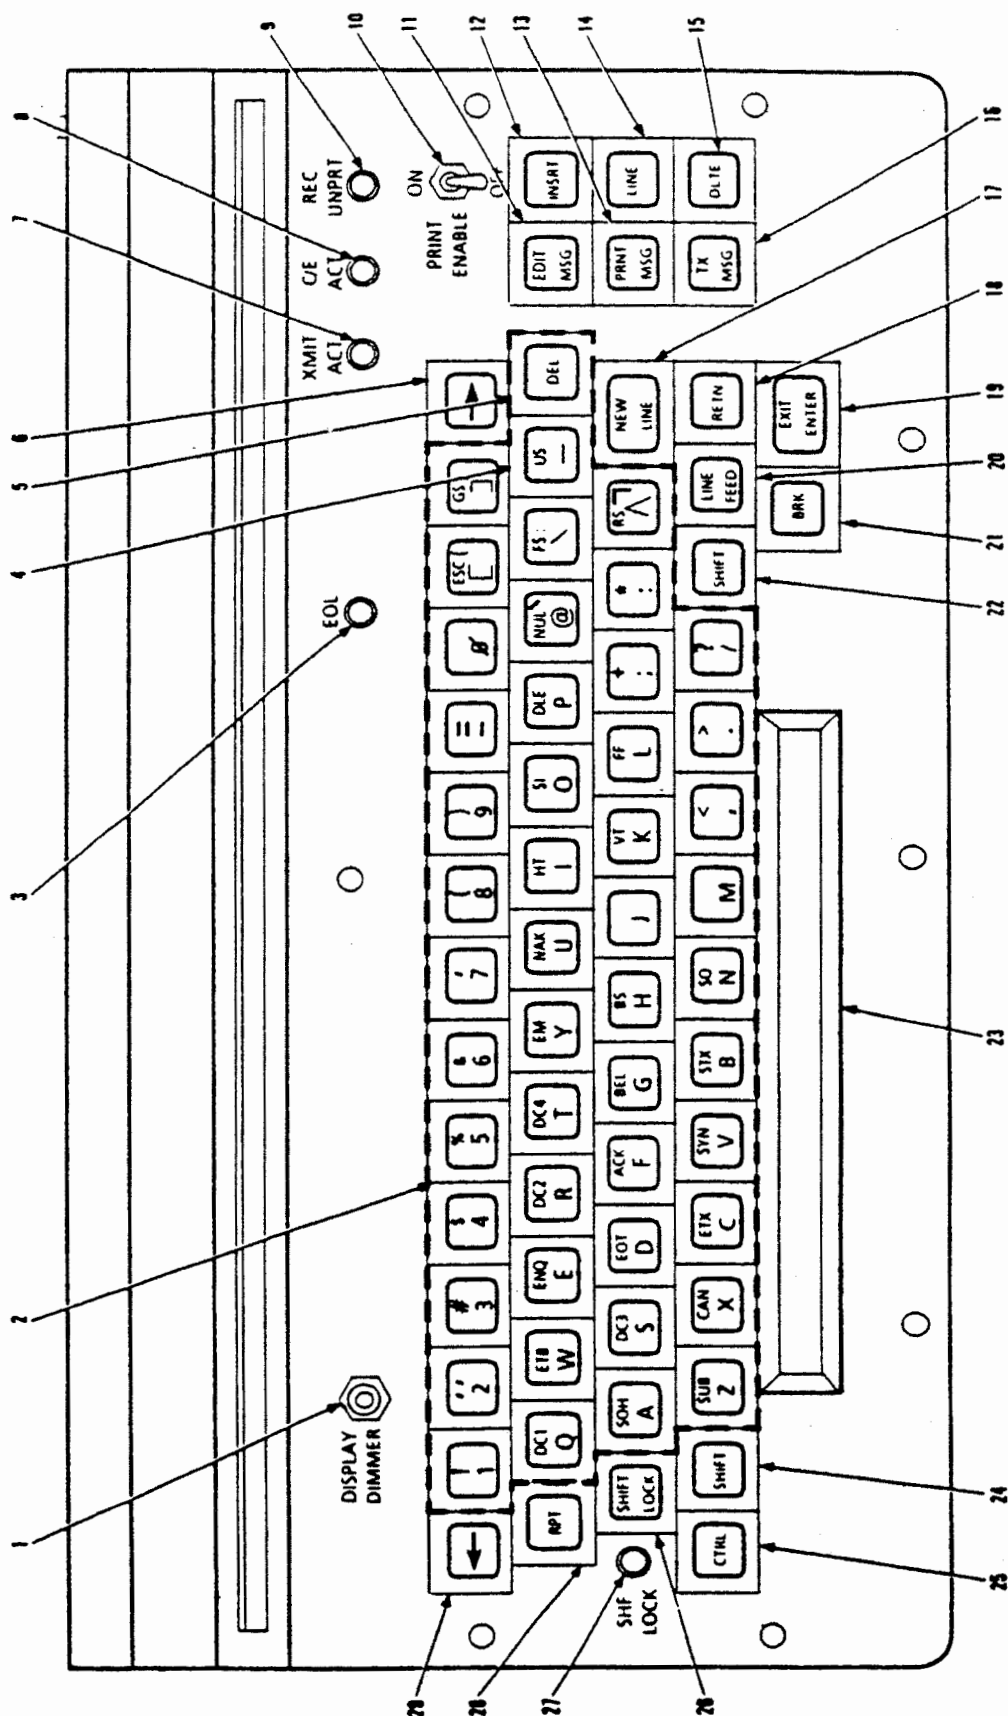

Figure 2-3. Keyboard, Operating Controls and Indicators
2-2.3 Keyboard and Message Memory Controls. Controls and indicators required for operation of the Keyboard-Printer are grouped together on the keyboard for ease of operation. The four-row MIL-STD-1280, Type I, Class 1 keyboard and special keys are shown in figure 2-3. The memory controls consist of a cluster of six special keys on the right of the keyboard, together with the EXIT/ENTER key as shown in figure 2-3. These keys control the manipulation of data for either internal or external memory. Table 2-3 describes the functions of the keyboard, memory controls, and indicators.
2-3.3.1 Local Mode. The local mode provides the operator with control over the Keyboard-Printer for the keyboard. As a stand-alone terminal, without a remote control terminal, the keyboard is powered-up in the local mode. If the Keyboard-Printer is used as part of a system, with a remote control terminal (i.e., page display), the keyboard is powered-up inactive and in remote. When in remote, the operator can change the keyboard mode from remote to local, provided the proper conditions are met. When the keyboard is in local but not in an operational mode (i.e., transmit message, compose/edit, etc.) it will function the same as a normal typewriter. To return the keyboard to remote, the operator only needs to press and hold the CTRL key while pressing and releasing the 4, LOC/REM (figure 2-3). The local keyboard mode procedure is contained in steps 8 through 10, table 2-4.
2-3.5.8 Letters and Figures Functions. Letters and figures functions are automatically inserted by the Keyboard-Printer when typing number and letter characters. Letters and figures functions can be manually inserted in compose, edit, or keyboard transmit mode by depressing the US/FIGS or DEL/LTRS key (4 or 5, figure 2-3).
2-3.5.11 Compose/edit Active Light. When the C/E ACT indicator (8, figure 2-3) is illuminated, it indicates that a message(s) has been stored in memory. When flashing, it indicates only 5000 characters of storage capacity remains. Message(s) will be printed and deleted to clear memory space above 5000 characters and the C/E ACT indicator stops flashing.